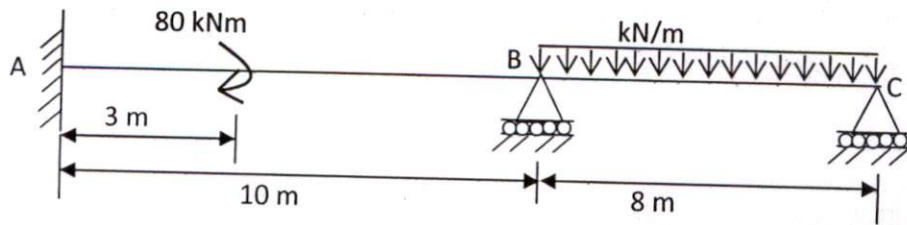

Fig.2
4) A continuous beam is loaded as shown in Fig.2. During loading the support B sinks by 10 mm. Using Kani's method, determine the bending moments and hence sketch the bending moment diagrams. Given that  $I=86 \times 10^4 \text{ mm}^4$ ;  $E=210 \text{ GPa}$ .